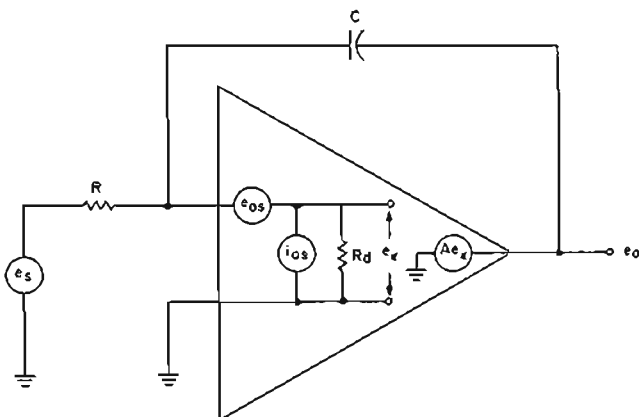
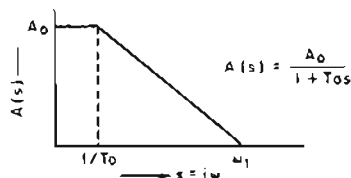

Figure 2. Equivalent Circuit for Integrator
Figure 4. Typical Open Loop Gain Response
By far the greatest source of error in integrators is due to offset and drift of the amplifier. An equivalent circuit is given in Figure 2 from which we can predict the errors due to offset. For the moment we shall assume that open loop gain,  $A$ , and open loop input impedance,  $R_d$ , are infinite.
4. If we go back to Figure 2 and assume that the amplifier has a gain response of Figure 4 and an open loop input impedance,  $R_d$ , then the exact expression for integrator gain would be: